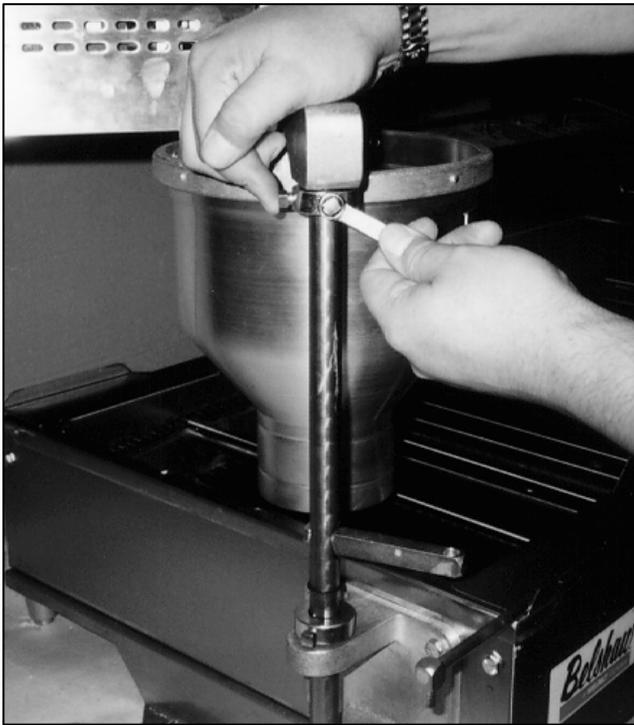

Figure 1-11. Adjusting the Swing of the Hopper.
- d. Tighten the set screws. (See Figure 1-11.)